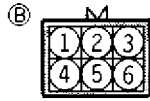

Fig. 10: ISC Motor Connector Terminal ID (1.6L)
1) Remove throttle body from intake plenum. Remove ISC motor from throttle body. Apply 6-volt source parallel to terminals No. 2 and 5 of ISC motor connector. See Fig. 10.
Measure resistance between terminals No. 1 and 2, 2 and 3, 4 and 5, and 5 and 6 of ISC motor connector. See Fig. 10. In each case, if resistance is not 28-33 ohms at 68°F (20°C), replace ISC motor assembly.